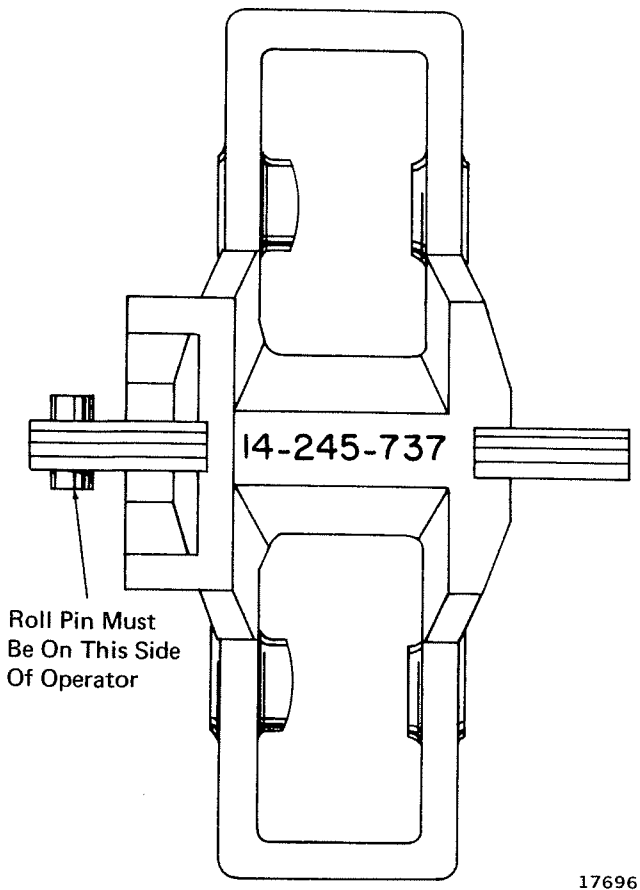

Fig. 3 – Armature And Operator Assembly
12. Position armature linkage in operator. Slide the two outer links in from one end of the operator and the two inner links from the other end. Secure with roll pin. See Fig. 3 for correct side of operator for replacing roll pin.